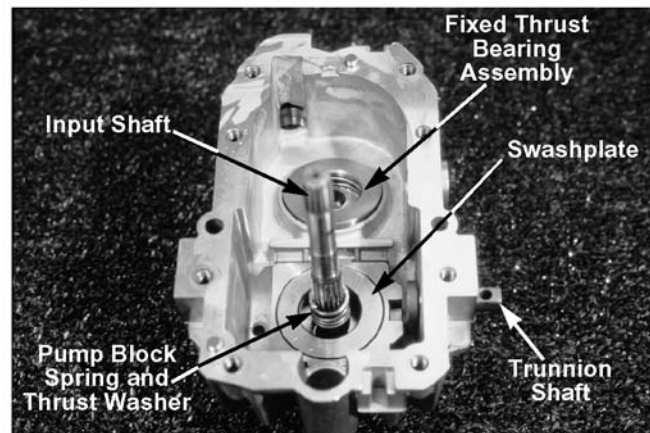

Figure 5-24.
- E. Pump block spring and thrust washer. See Figure 5-24.